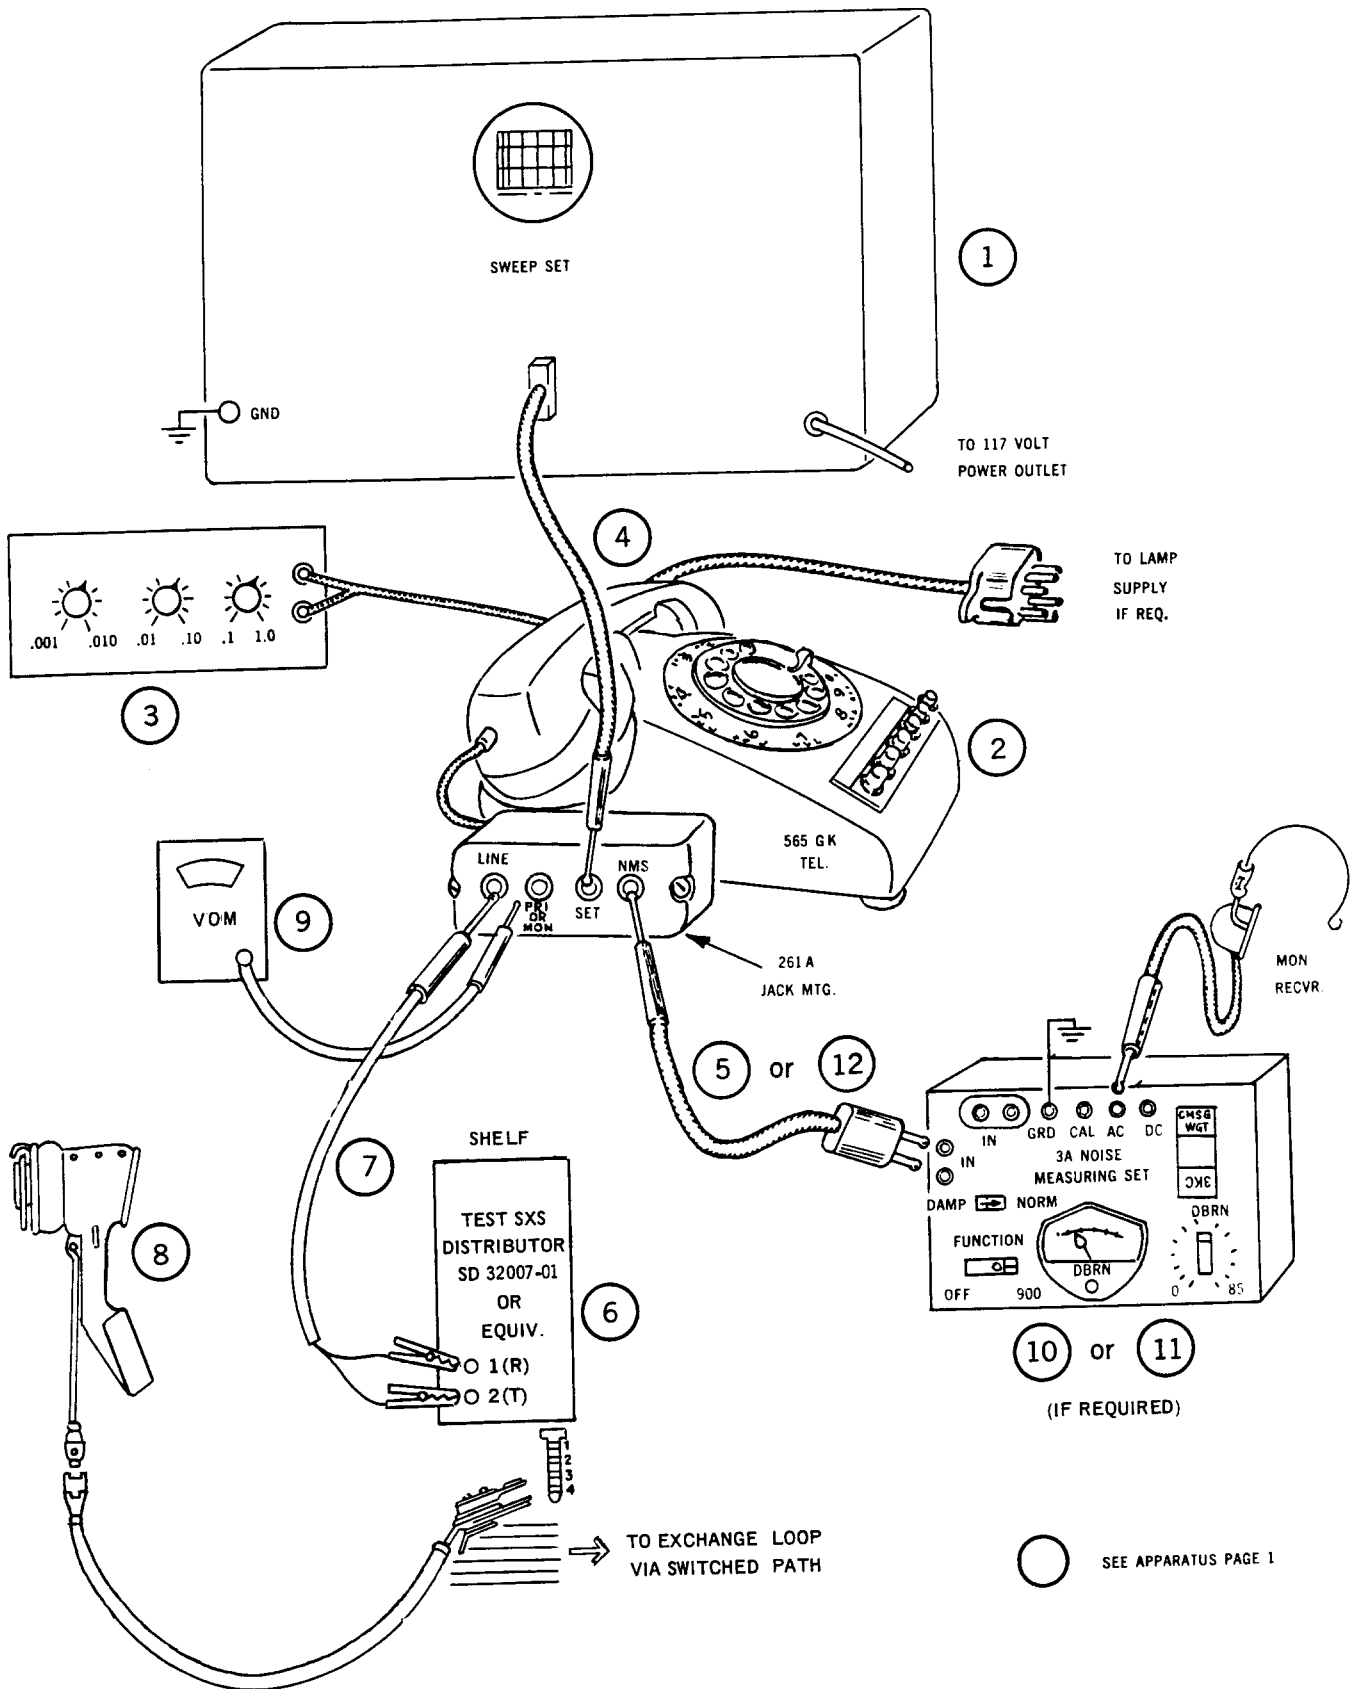

Figure 1
**2.03** The sweep set requires a 117V.AC power outlet and suitable ground, or the set may be equipped with a 3-wire power cord. The telephone set lamps may be activated with AC power by providing a 2012A transformer wired locally as described in Fig. 1 of Section 330-450-102.
**3.01** Connect the test apparatus as shown in Fig. 1. The numbers on the figure refer to the items in the apparatus list. The station arrangement is connected to the terminal strip on the test distributor, and the 1011G handset is connected to the test jack.
**4.01** Operate the DIAL button on the telephone set. Connect the 1011G handset as shown in Fig. 1 and dial the telephone number of the desired line.